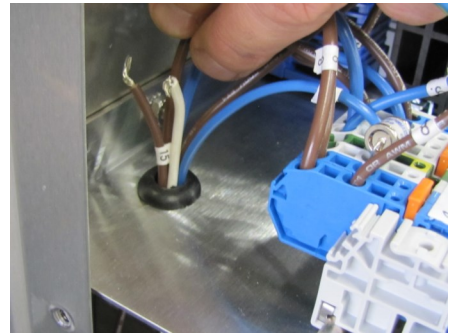

Figure 22
22. Bring the #15 brown and #9 white wires through the grommet. See Figure 22.